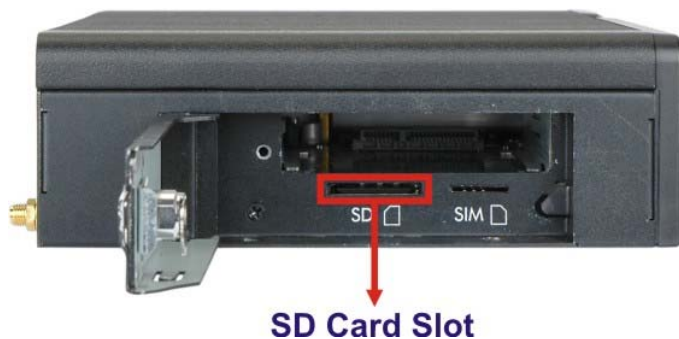

Figure 3-1: SD Card Slot Location
Step 1: The SD card slot is protected by a lockable cover on the side panel. Locate the SD card slot by opening the cover (**Figure 3-1**). If the cover is locked, use the key to open it.